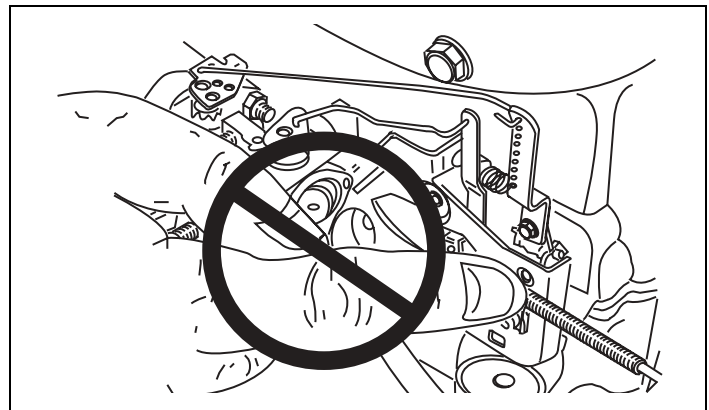

Figure 22. Linkage and Lever Bending
*DO NOT bend levers and linkage with fingers. See Figure 22.*